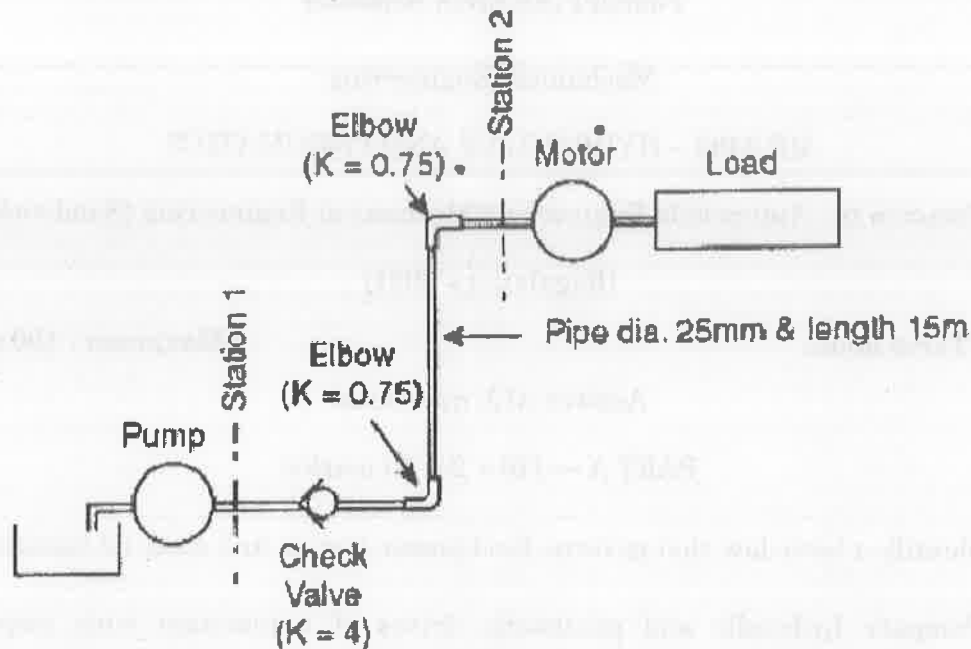

Fig 11 (a)
11. (a) The system shown in Figure 11 (a) contains a hydraulic pump delivering high pressure oil of specific gravity 0.9 and kinematic viscosity  $1.25 \times 10^{-4} \text{ m}^2/\text{s}$ , to a hydraulic motor. A 25 m pipe of internal diameter 30 mm and thickness of 10 mm connects the pump and motor. The pipe has two elbow fittings ( $k = 0.70$ ) and one check valve ( $k = 4.0$ ). The motor is placed 10 m above the pump. The pressure required to drive the loaded motor is 40 bar. Determine the pump discharge pressure, if the discharge from the pump is 180 lpm